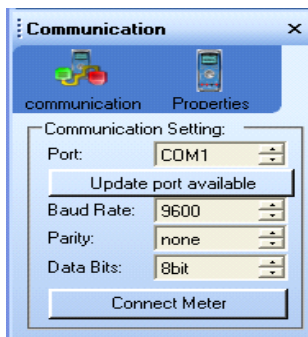

Figure 3 Communication panel
- 4 Click on the **Communication** panel and configure the meter's setup settings. Select the communication **Port** (Figure 3) on your PC that the instrument is connected to. The typical communication port is COM4, COM7, or COM8.
The default settings for baud rate, parity and data bit are shown in Figure 3.